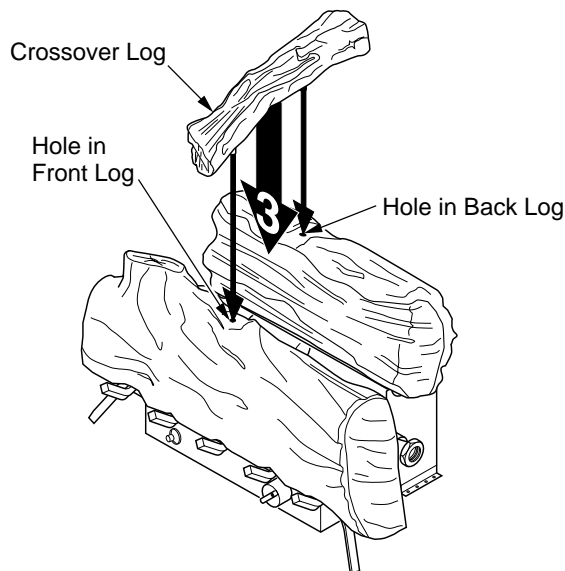

Figure 34 - Installing Crossover Log
3. Place the crossover log on top of the back log and front log making sure pins are inserted into holes on top of logs 1 and 2 (see Figure 34, page 17). This log must be placed as shown in Figure 34 on page 17 or the pins will not seat into holes.